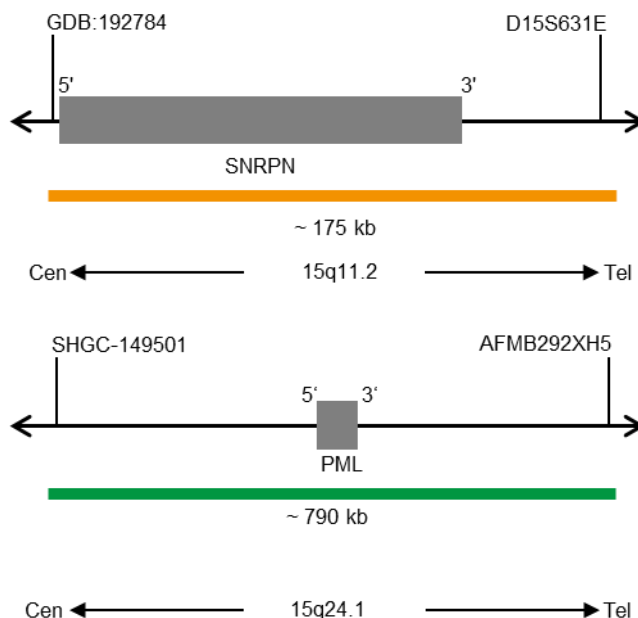

Fig. 1: Top: SPEC SNRPN Probe map; Bottom: SPEC PML Probe map (not to scale)
- ZyOrange (excitation 547 nm/emission 572 nm) labeled polynucleotides (~4.5 ng/ μ l), which target sequences mapping in 15q11.2* (chr15:25,097,811-25,270,969) harboring the SNRPN gene region (see Fig. 1).
- ZyGreen (excitation 503 nm/emission 528 nm) labeled polynucleotides (~10.0 ng/ μ l), which target sequences mapping in 15q24.1* (chr15:73,910,690-74,699,298) harboring the PML gene region (see Fig. 1).